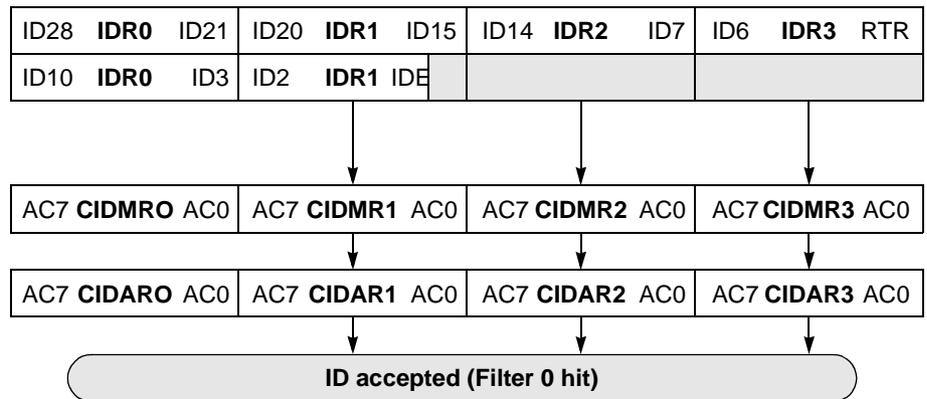

Figure 44 32-bit Maskable Identifier Acceptance Filters
- Two identifier acceptance filters, each to be applied to a) the full 29 bits of the extended identifier and to the following bits of the CAN frame: RTR, IDE, SRR or b) the 11 bits of the standard identifier, the RTR and IDE bits of CAN 2.0A/B messages. This mode implements two filters for a full length CAN 2.0B compliant extended identifier. Figure 44 shows how the first 32-bit filter bank (CIDAR0–3, CIDMR0–3) produces a filter 0 hit. Similarly, the second filter bank (CIDAR4–7, CIDMR4–7) produces a filter 1 hit.